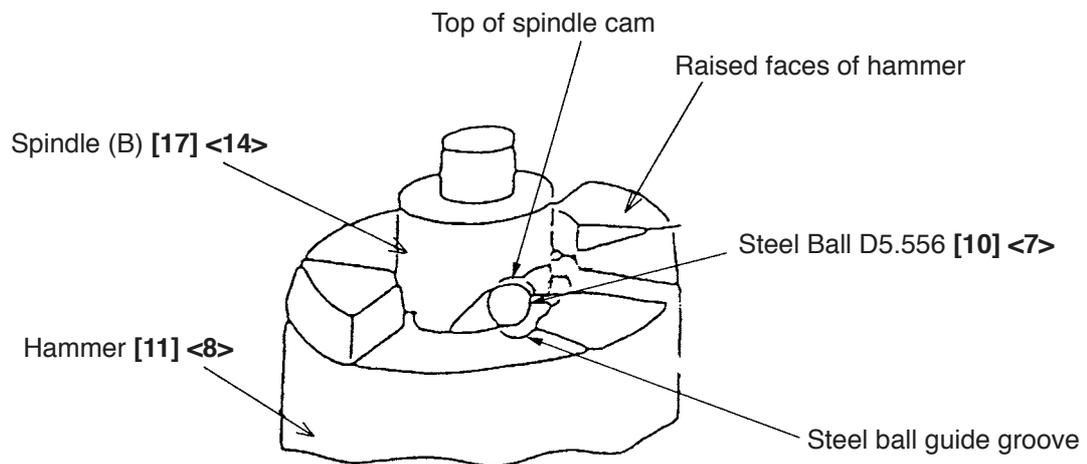
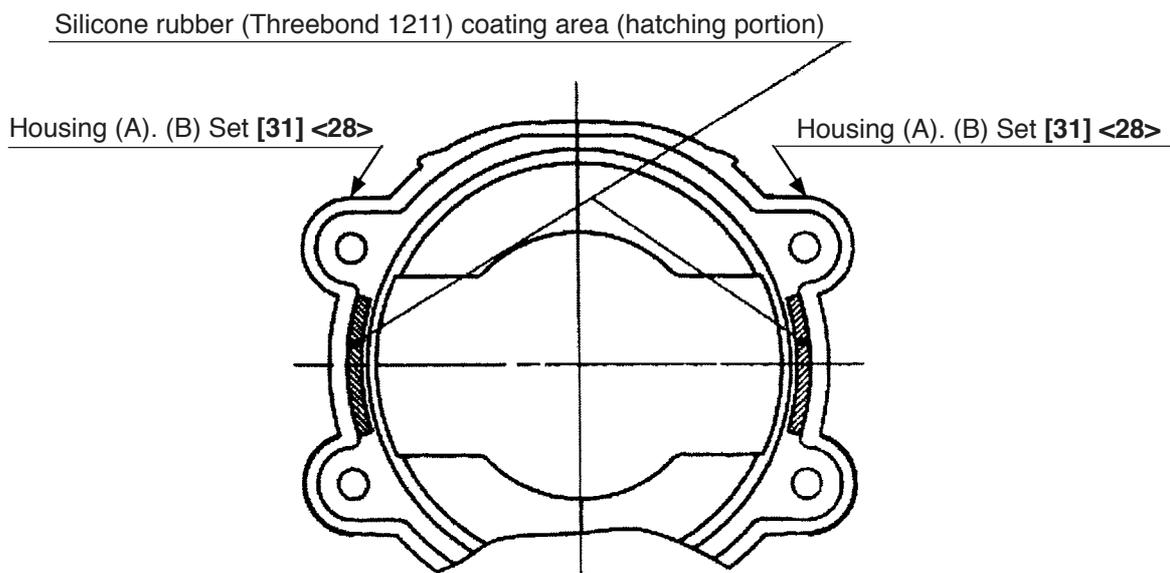

Fig. 9
Fig. 11
(3) Reassembly of the mechanical parts
- (a) Put Washer (S) [15] <12> onto the shaft of Spindle (B) [17] <14> and mount the Hammer [11] <8> containing the twenty-eight Steel Balls D3 [12] <9>, Washer (J) [13] <10> and the Hammer Spring [14] <11> to Spindle (B) [17] <14>.
- (b) Align the top of the cam groove on Spindle (B) [17] <14> with the steel ball guide groove on the Hammer [11] <8> as illustrated in Fig. 9. Press down either of the raised faces of the Hammer [11] <8> with a hand press to compress the Hammer Spring [14] <11> until the end surface of the hammer contacts the flange of Spindle (B) [17] <14> .
- (d) Mount the hammer assembly onto the J-297 base for washer (S). With a hand press, push down the top of Spindle (B) [17] <14> to compress the Hammer Spring [14] <11>. On this condition, mount the Stopper [16] <13> onto the spindle shaft and then release the hand press.
- (e) Mount the Ring Gear [20] <17>, Washer (E) [21] <18>, Ball Bearing 6901VVCMP52L [22] <19>, Inner Cover [23] <20>, Damper [24] <21> and the Retaining Ring [25] <22> to the above reassembly. Furthermore, mount the other mechanical parts and the Anvil [9] <6>, then the Hammer Case [7] <3>.
(4) Mounting the Gear Box Ass'y [1] <1> to the housing
Coat Housing (A).(B) Set [31] <28> with Silicon Rubber (THREEBOND 1211) as shown in Fig. 11. Mount the Gear Box Ass'y [1] <1> so that the pinion press-fitted in the Motor [26] <23> properly meshes with the Idler Gear Set [18] <15>. Check that the Anvil [9] <6> turns smoothly. If not, the gear meshes improperly. Check the meshing condition. Tighten the four Tapping Screws (W/Sp. Washer) D4 x 40 [6] <2>. Wipe the silicon rubber protruded from the housing with a cloth.
(5) Reassembly of the Guide Sleeve [5] (Model WH 12DAF2 only)
Insert the Steel Ball D3.5 [8] into the hole of the Anvil [9]. Mount the Guide Sleeve [5], the Guide Spring [4] and Washer (D) [3] in sequence. Mount the Retaining Ring [2] into the groove of the anvil using J-295 jigs (A) and (B) for retaining ring as illustrated in Fig. 9.